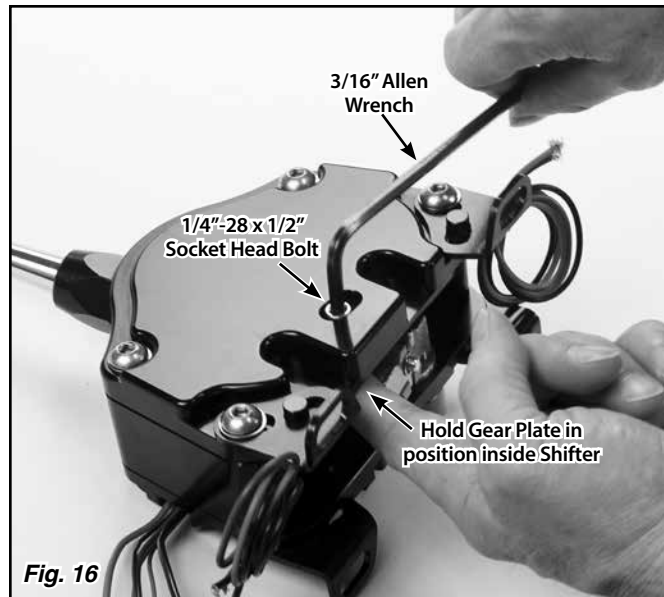

Fig. 16
Lay the Shifter on its side with the driver's side down and the shifter lever pointing away from you. Note the 1/4"-28 x 1/2" socket head bolt shown in **Fig. 16** is at the left side of the slot it is in.
- Step 2:** Reach inside the Shifter and support the gear plate. Use a 3/16" Allen wrench to remove the 1/4"-28 x 1/2" socket head bolt. **Fig. 16**